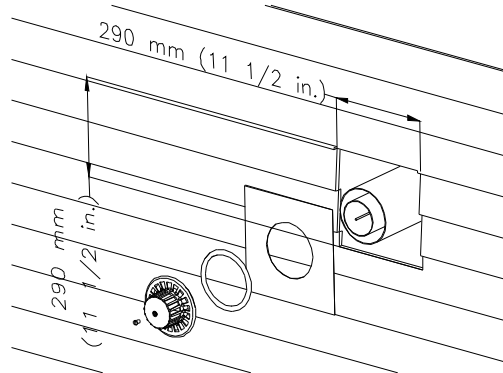

Figure 16
- Place cap and screw nut "E", until cap leans against the plate. (See figures 16 and 17).